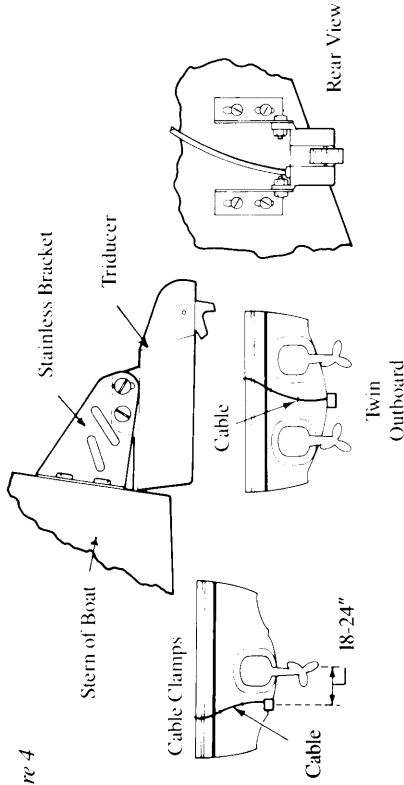

Figure 4
- 1) Assemble the transducer to the bracket as shown in *Figure 4*.